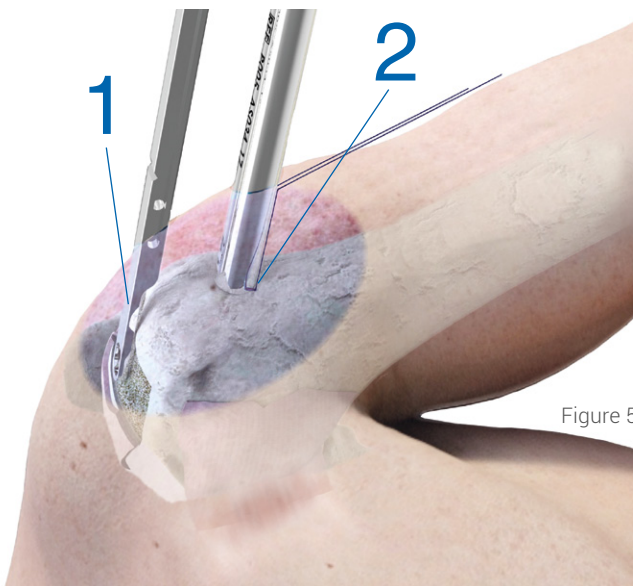
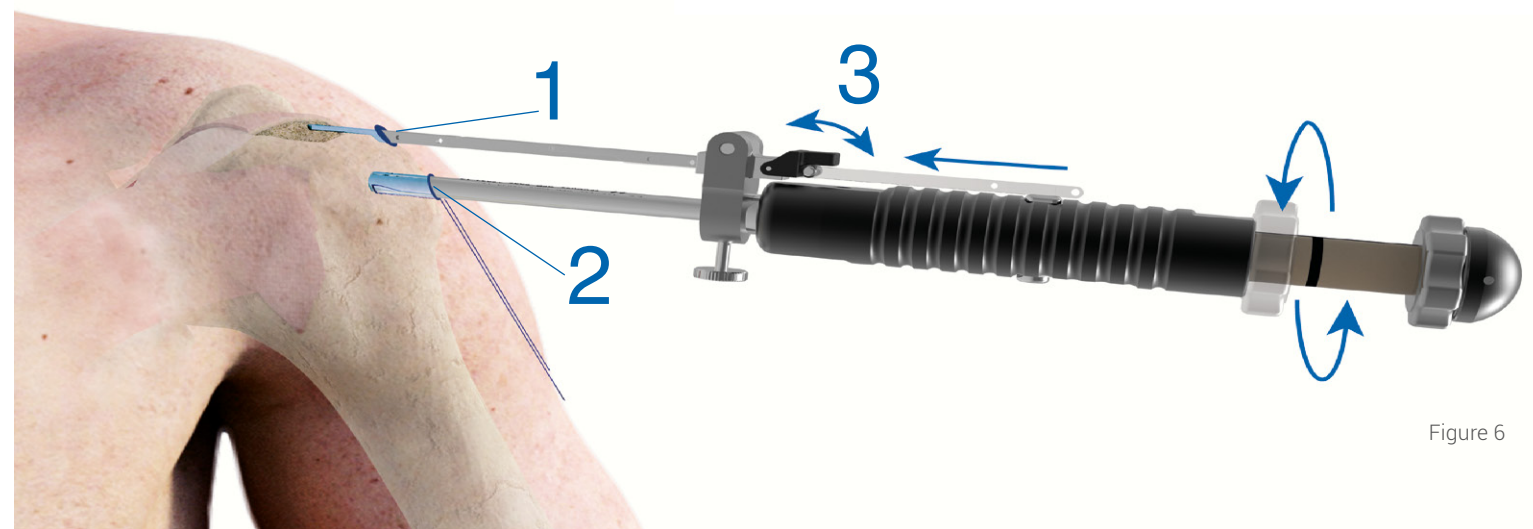

Figure 5
Figure 6
- ▶ UNLOCK THE TARGETING FRAME AND PUSH IT INTO THE PROXIMAL PORTAL (N. 1 FIG. 5) TO THE LOCK POSITION (N. 3 FIG. 6).